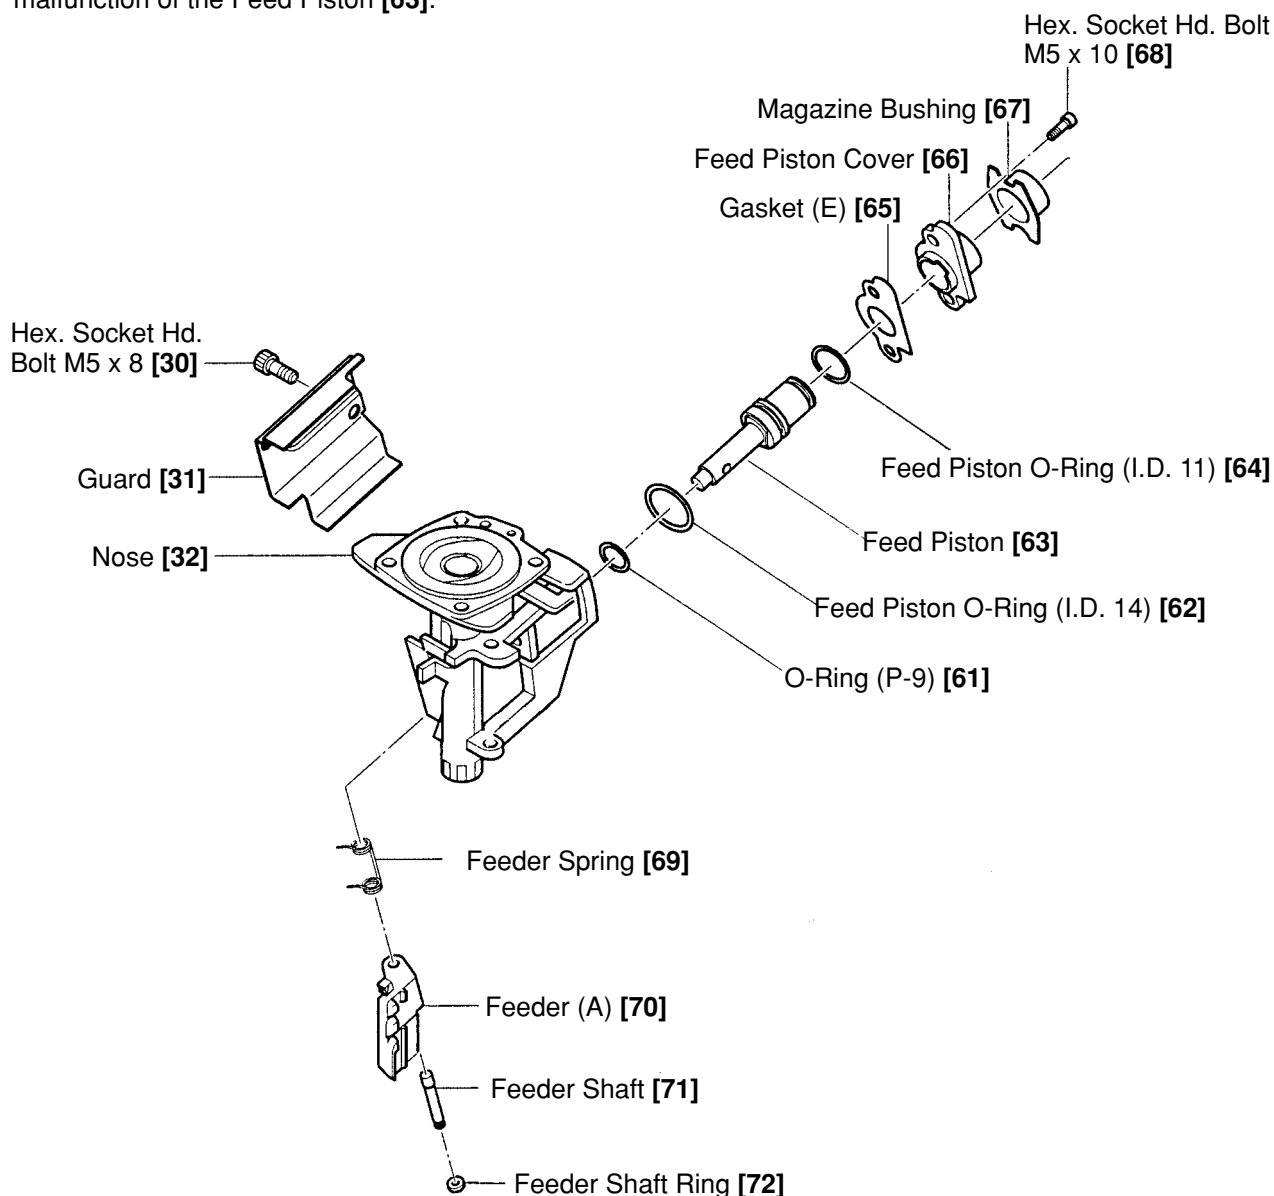

Fig. 22
(2) Feed Piston [63], Feeder (A) [70] and related parts: (See Fig. 22.)
(a) Disassembly (See Fig. 22.)